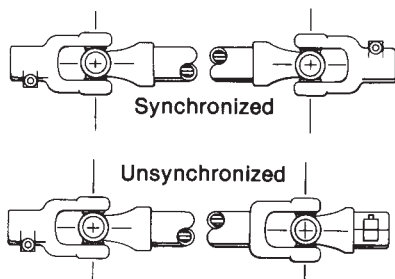

Figure 6
3. Make sure tumbling bar (coupling shaft) is assembled with its universal joint knuckles "synchronized," as illustrated in Figure 6. If knuckles are not synchronized, the bar will chatter when rotating, which will cause the generator output voltage to fluctuate.
Tumbling bar U-joints not synchronized.	Reassemble tumbling bar; see Figure 6.